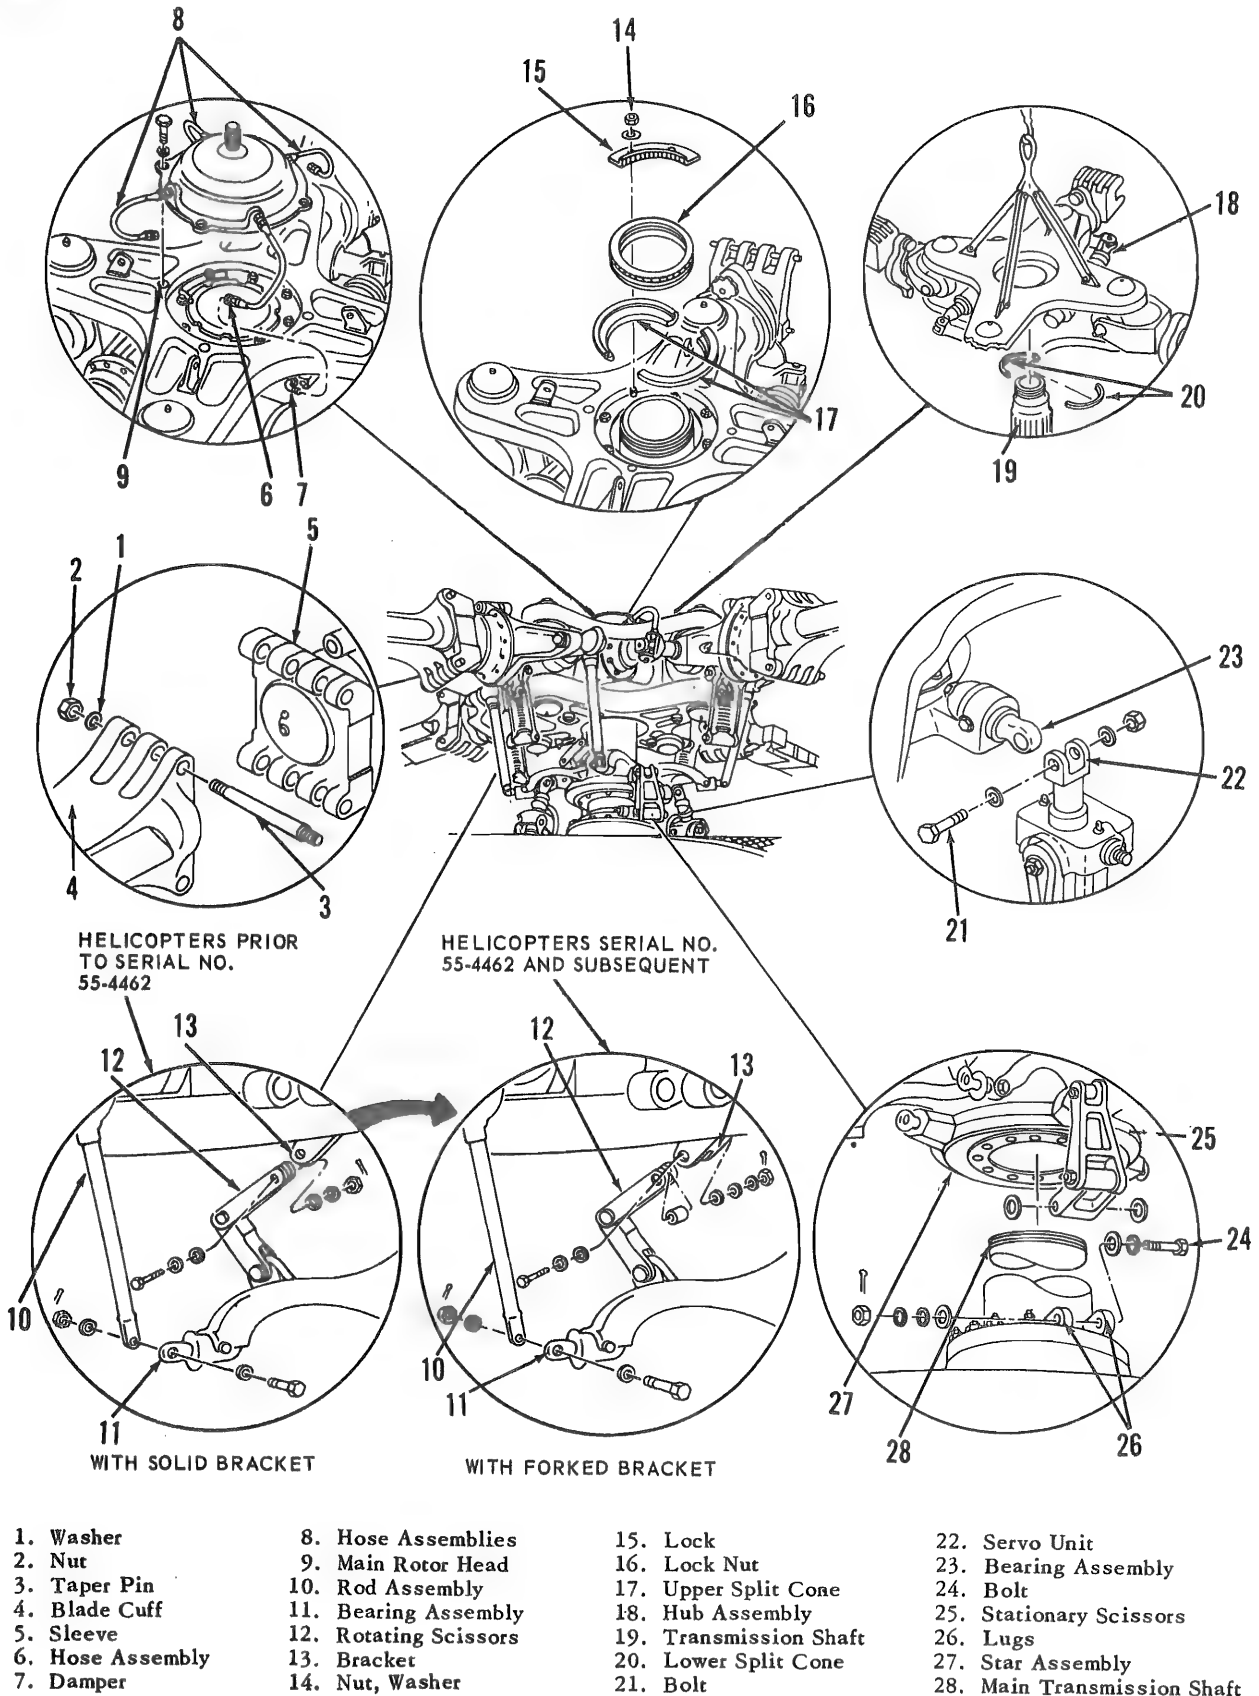

Figure 5-1. Removal of Main Rotor Head Assembly
5-5. REMOVAL. (See figure 5-1.)
5-8. INSTALLATION. (See figure 5-1.)
b. Disconnect hose assembly (6, figure 5-1) from damper (7) and drain fluid tank.
g. Unscrew and lift out lock nut (16, figure 5-1) and upper split cone (17).
5-14. INSTALLATION. (See figure 5-1.)
g. Install lock on any two bolts, except bolt with index zero, and tighten nuts (14, figure 5-1) to a torque of 560 to 690 inch-pounds.
h. On main rotor head assemblies with a forked bracket, connect rotating scissors (12) to bracket (13) on the lower plate with bolt, thrust washers, washer, and nut. Do not overtighten nut. Install cotter pin.
i. On main rotor head assemblies with a solid bracket, connect rotating scissors (12) to solid bracket (13) on lower plate with bolt, washers, nut, cotter pin, spacer, and shim. Do not overtighten nut.
j. Connect each rod assembly (10) to bearing assembly (11) on rotating star. Do not overtighten nut. Install cotter pin.
k. Bolt fluid tank to main rotor head (9).
l. Connect hose assemblies (6 and 8) to dampers (7).